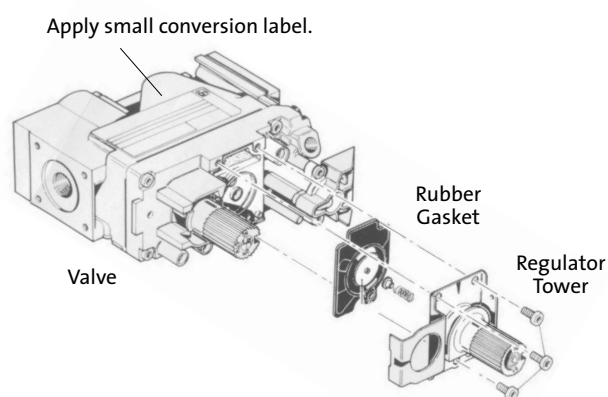

Figure 17. Regulator assembly.
13. Replace the Variable Regulator. Using a Torx T-20 screwdriver, remove the three screws from the front of the valve regulator. See fig. 17.
14. Remove the regulator tower, gasket, white plastic disk, and spring. See fig. 17.